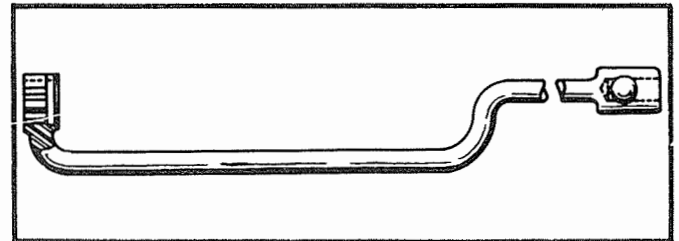

Figure 7-104. Fuel Injection Tube to Supercharger Rear Housing Connection Nut Wrench
b. Disconnect the fuel injection tube connection nut at the supercharger rear housing with wrench 807515 (figure 7-104).